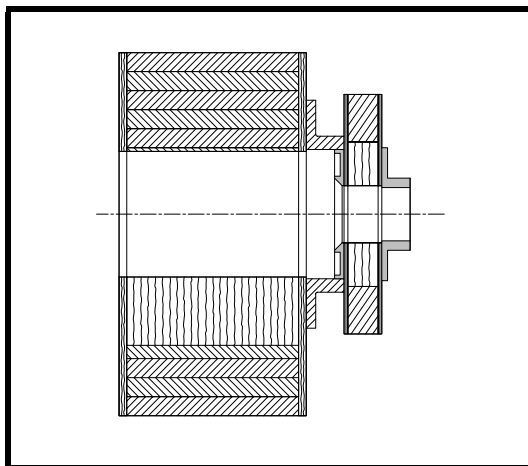
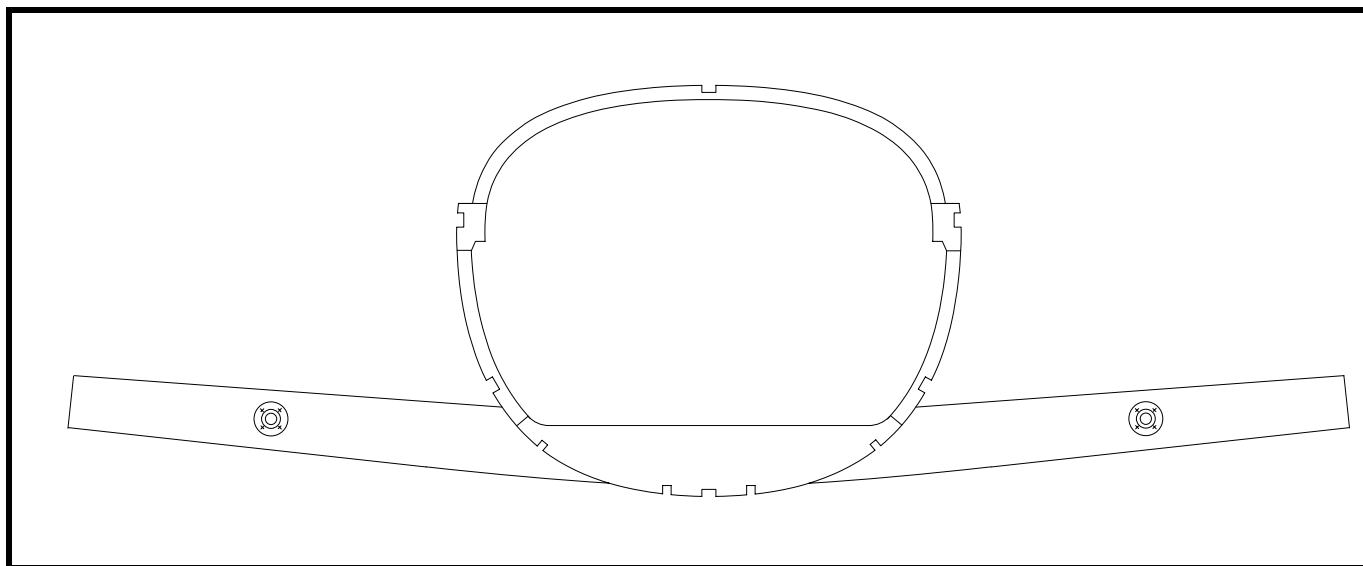

Figure 3
Figure 15
- ❑ Fit P/N 766 over P/N 768 as shown in Figure 3.
- ❑ Clamp this assembly to the aft face of the main wing spar as shown in Figure 3 and 4. Previously, you have drawn W.L. -420 on the aft face of the main wing spar and on the ends of the forward wing spar. Use these lines to locate the spars relative to each other.
- ❑ Glue fuselage frame No. 3 to the forward wing spar. See Figure 15. It is very important that the fuselage frame be properly located on the wing spar. For this gluing operation, we suggest that the landing gear fittings be assembled as shown in Figure 3. This will allow the spars to be correctly positioned relative to each other. The aircraft centerline on fuselage frame No. 3 can be aligned with the aircraft centerline on fuselage frame No. 4.